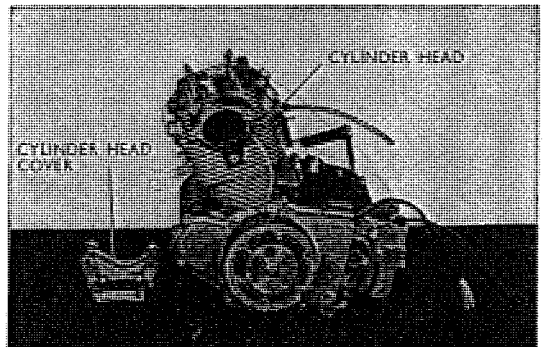

Fig. 3.15 Removing cylinder head
4. By removing the cam chain, the cylinder head can be removed from the stud bolts. (Refer to Fig. 3.15)